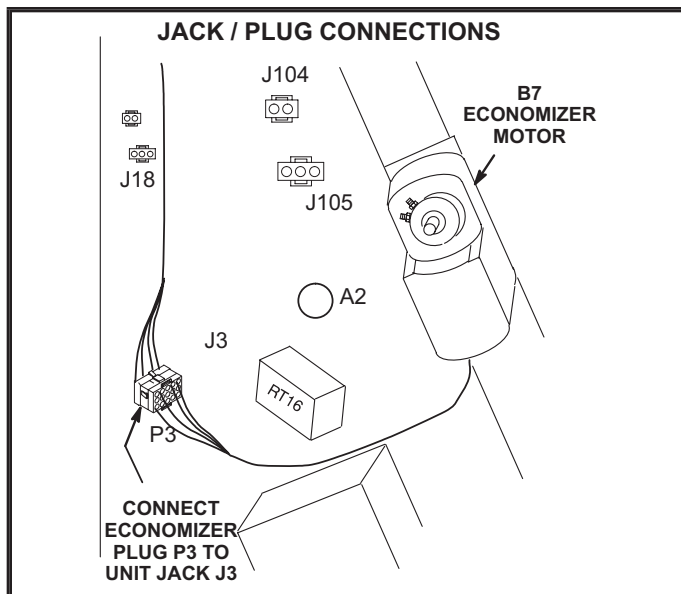

FIGURE 2
- 6 - Connect economizer plug P3 to unit jack J3 as shown in FIGURE 2.